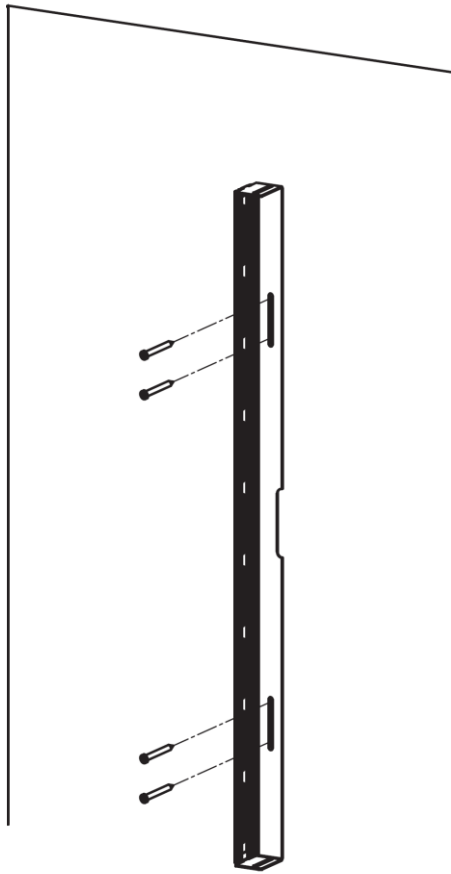

FIGURE 1
3. The LCR DM Brackets have two slots cut through the rear of the part which will function as a surface mount bracket. Refer to **FIGURE 1**.